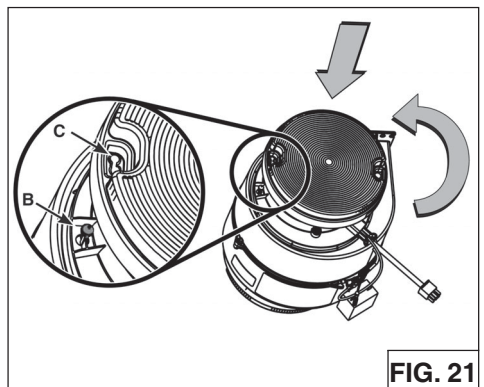

FIG. 21
3. Position each filter over its support, insert both pins (B) into the round slot (C) on filter side and rotate to lock in place (Fig.21).